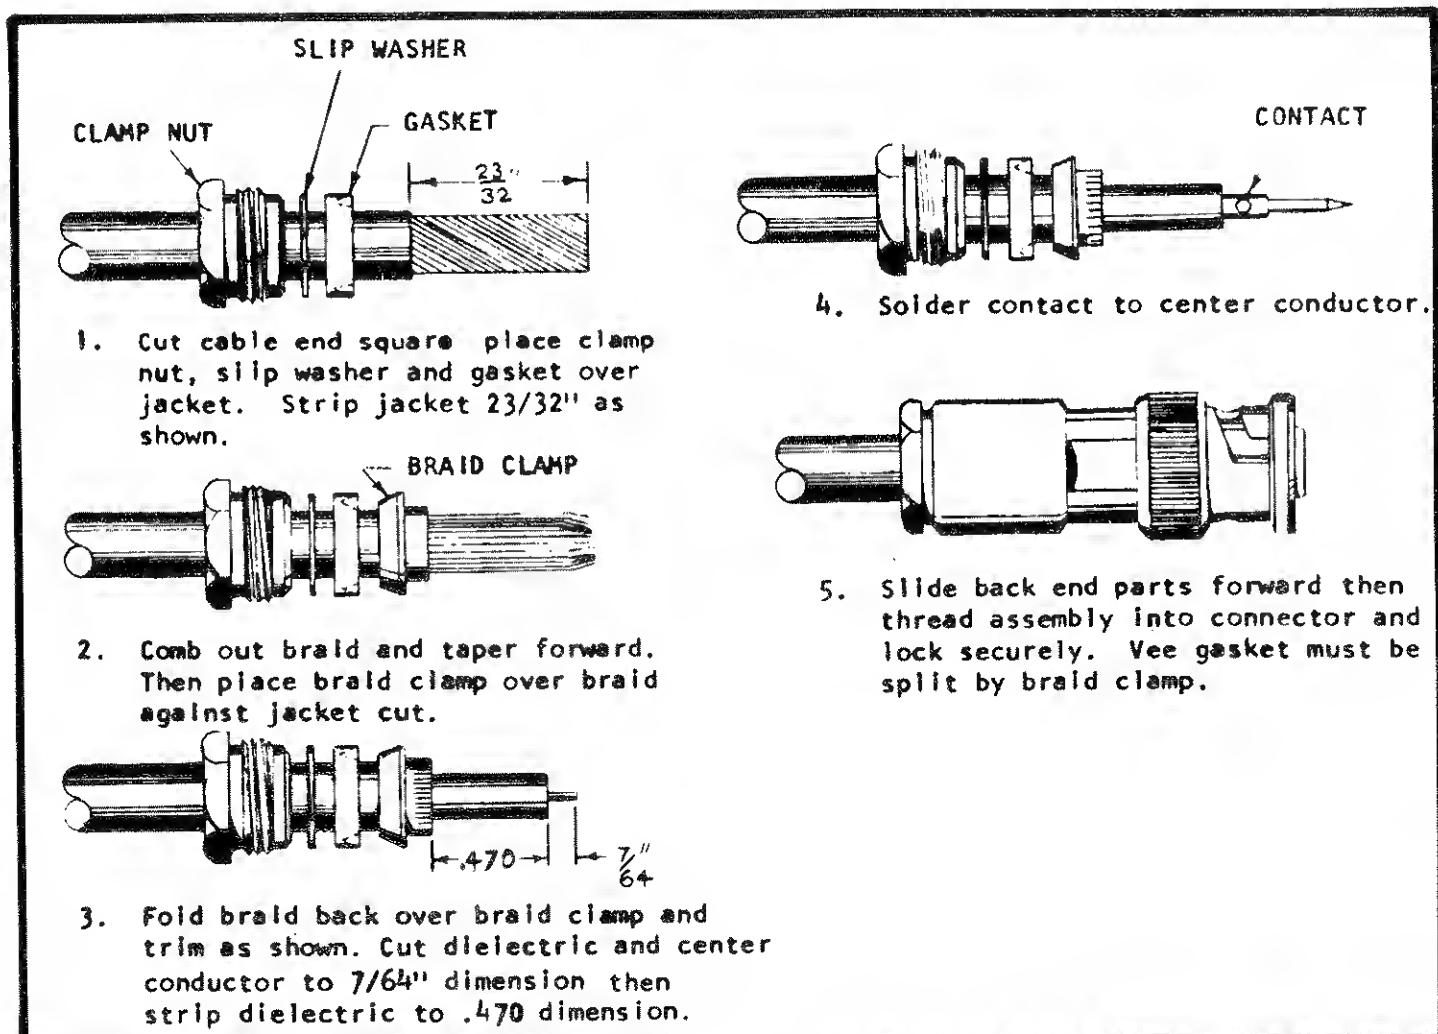

FIGURE 20. Cable Assembly for Mating MHV Connector.
- Assemble the cable as shown in Figure 20.